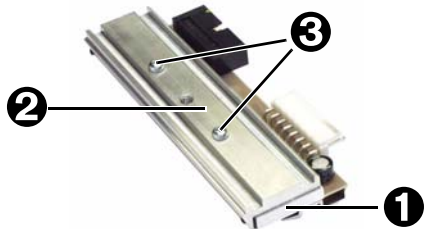

Fig. 1: Printhead (1) with bracket (2).
4. Applying light pressure, go over the printhead (1) a few times with the cleaning pen (Fig. 1).
3. Close the pressure lever (1).
4. Remove the two thumb screws (Fig. 1).